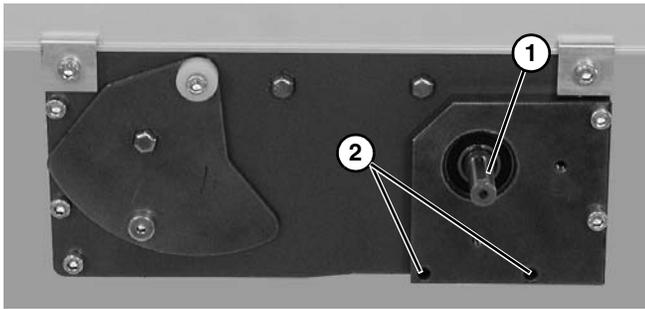

Figure 6
3. Locate drive output shaft (**Figure 6, item 1**) and remove two (2) screws (**Figure 6, item 2**).